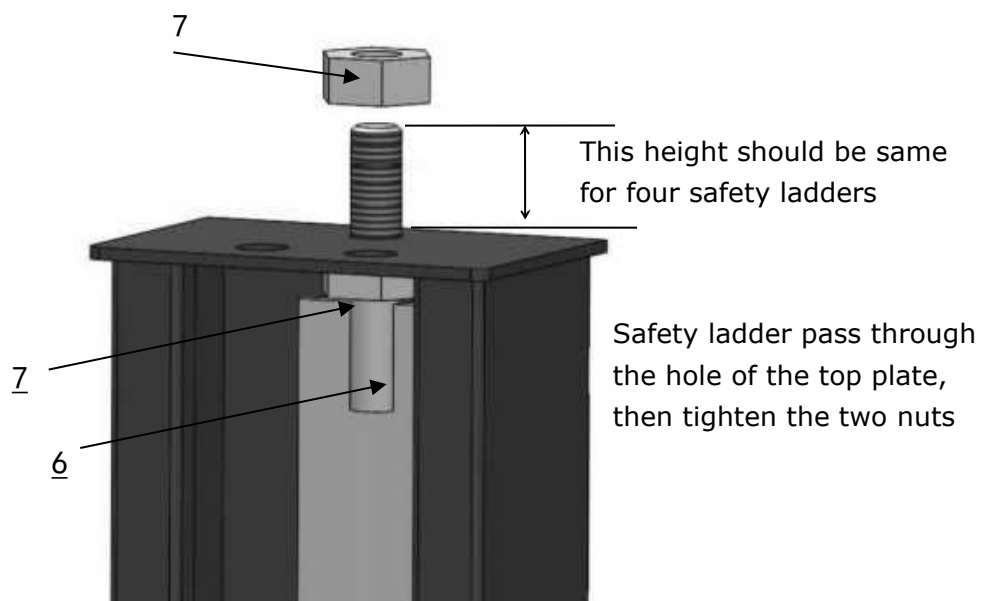

Fig. 16
2. Install safety ladders (**See Fig. 16**)